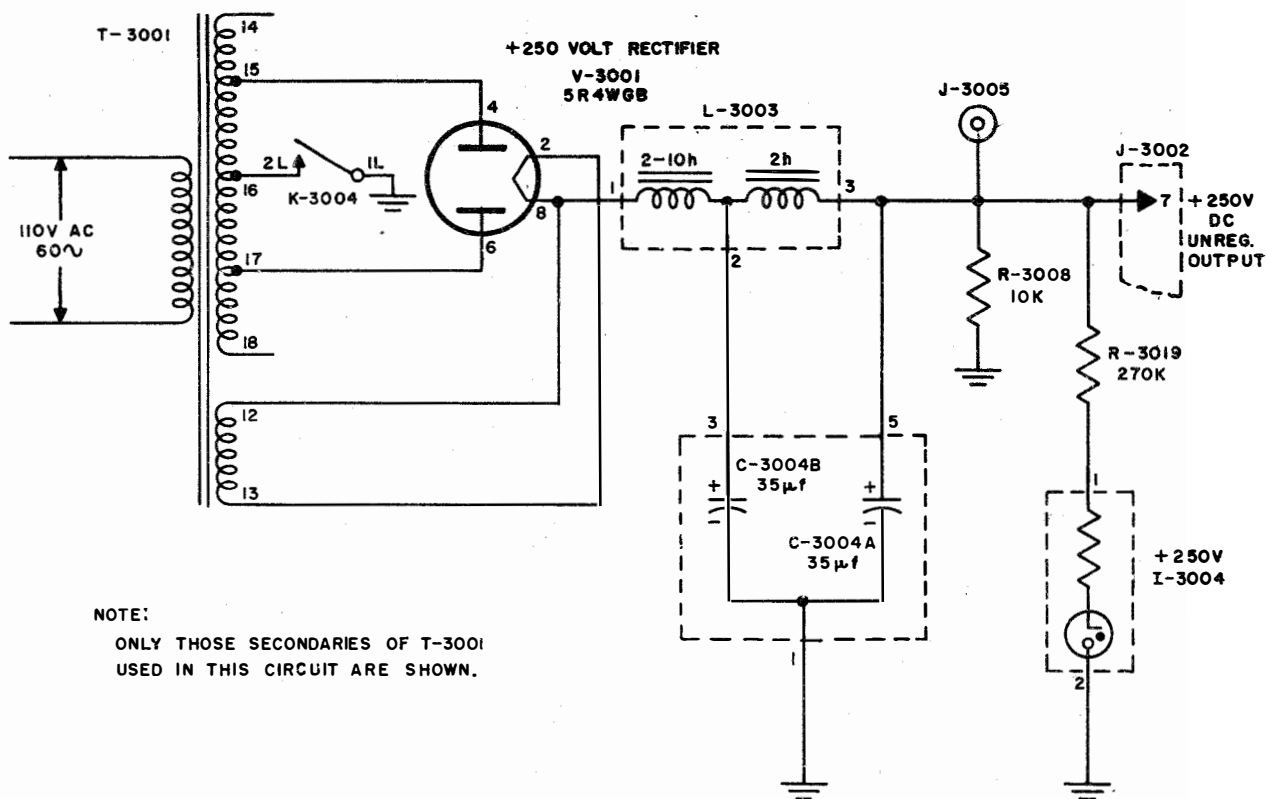

Figure 2-59. +250-Volt D-C Unregulated Supply, Simplified Schematic
f. +250-VOLT D-C UNREGULATED SUPPLY.—The +250-volt rectifier, V-3001 (figure 2-59), is a conventional full-wave rectifier. The plate voltage is taken from terminals 15 and 17 (740 volts rms) on T-3001. This secondary winding is also used for the +300-volt supply. The supply has a ground return through the center-tap terminal 16 and contacts 2L and 1L of K-3004, as described in the previous paragraph. The rectified voltage is taken from the cathode of V-3001 and passed through the double choke input filter comprised of L-3003, C-3004A, and C-3004B. R-3008 is a bleeder for the filter capacitors and improves regulation. R-3019 is a dropping resistor for the +250 V indicator, I-3004, which denotes the presence of the +250-volt unregulated supply. This supply, which is rated at 200 ma, is delivered to the RFO. J-3004 provides a test point for measuring this supply.